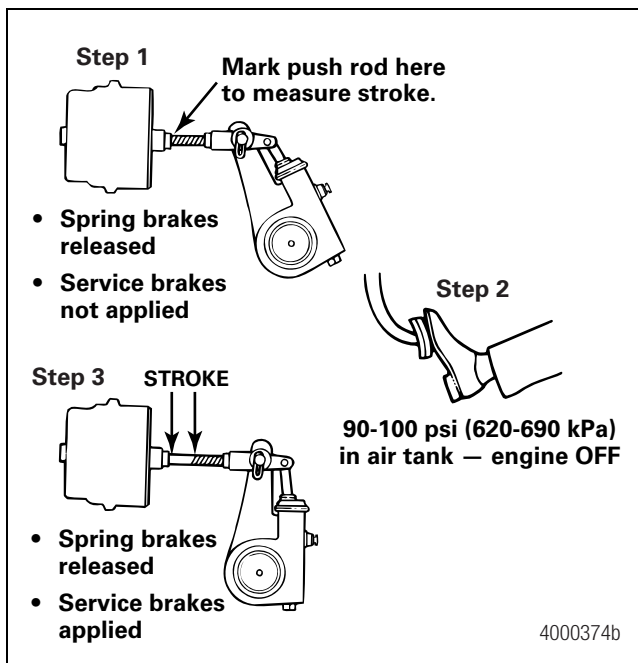

Figure 6.4
3. With the brakes released, mark the push rod where it exits the chamber. Measure and record the distance. Have another person apply and hold the brakes on full application. Figure 6.4. Hold the ruler parallel to the push rod and measure as carefully as possible. A measurement error can affect CVSA re-adjustment limits. CVSA states that “any brake 1/4-inch or more past the re-adjustment limit, or any two brakes less than 1/4-inch beyond the re-adjustment limit, will be cause for rejection.”
4. Measure the push rod travel or adjusted chamber stroke from where the push rod exits the brake chamber to your mark on the push rod. Measure and record the distance. Figure 6.4.